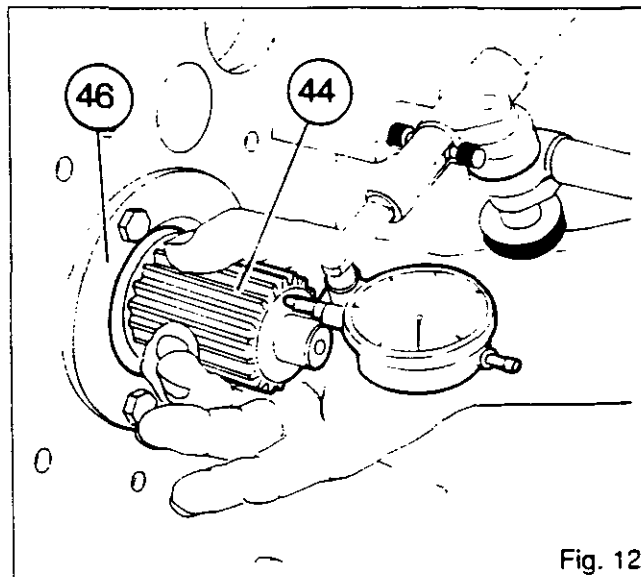

Fig. 12
### 36. Set up a dial gauge against the end-face of shaft (44) (Fig. 12).